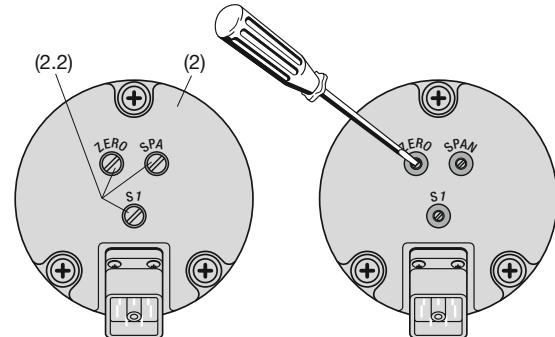
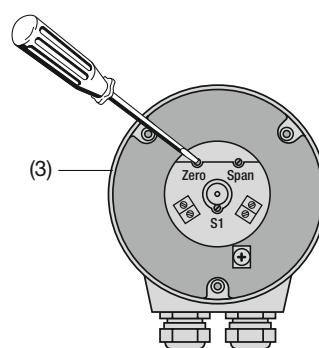

Fig. 9. Rear (2) of the transmitter with the adjustments "ZERO", "SPAN" and "S1".
Fig. 10. Rear (3) of the transmitter with the adjustments "ZERO", "SPAN" and "S1".
- ... with **plug-in connector** remove the ZERO/SPAN sealing screws (2.2) (Fig. 9, left).
Then adjust the "ZERO" potentiometer (Fig. 9, right or Fig. 10) using a watchmaker's screwdriver (2.3 mm diam.) so that the desired output current flows.
A switch is provided on angular transmitters with a measuring range $> 150 \leftarrow\rightarrow$ for reversing the direction of rotation. It is marked S1 (Fig. 9 and Fig. 10).
- ... with **plug-in connector** remove the S1 sealing screw (2.2) (Fig. 9, left).